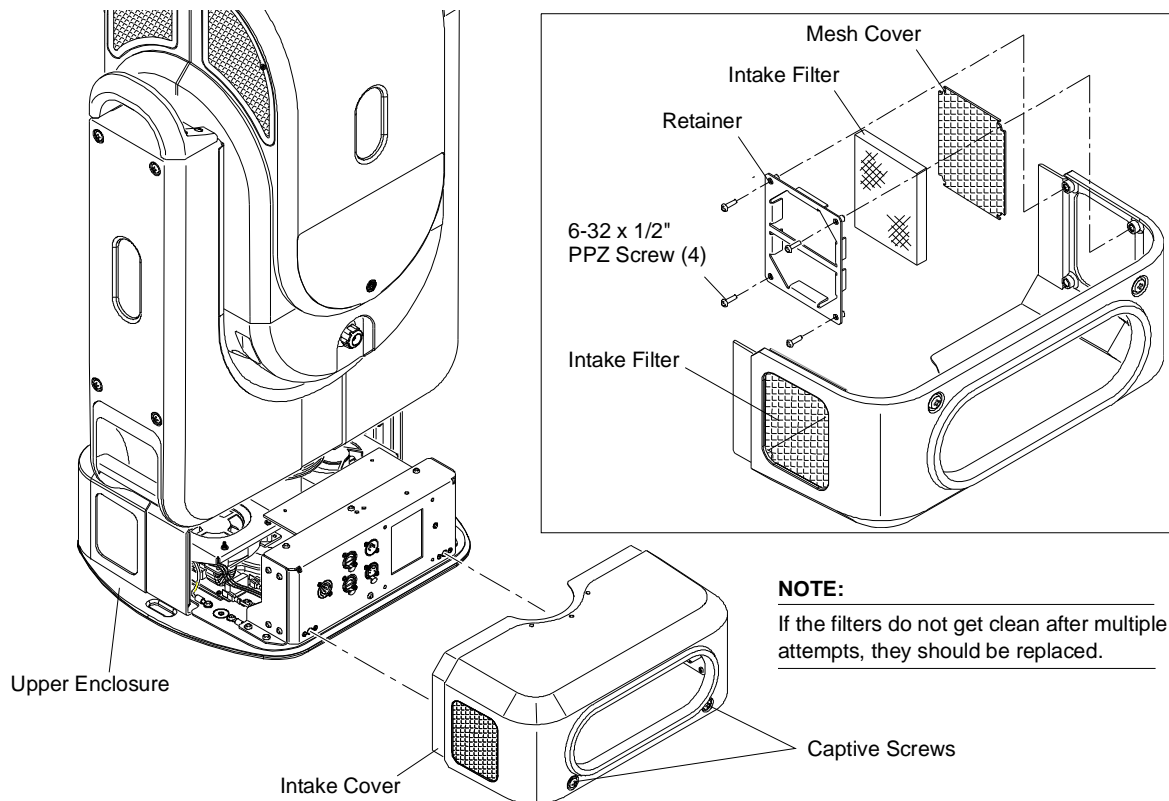

Figure 4-5: Removing Enclosure Intake Filters
Step 2. Remove Intake Cover by first loosening two captive screws, then pulling away from Upper Enclosure as shown in **Figure 4-5**.